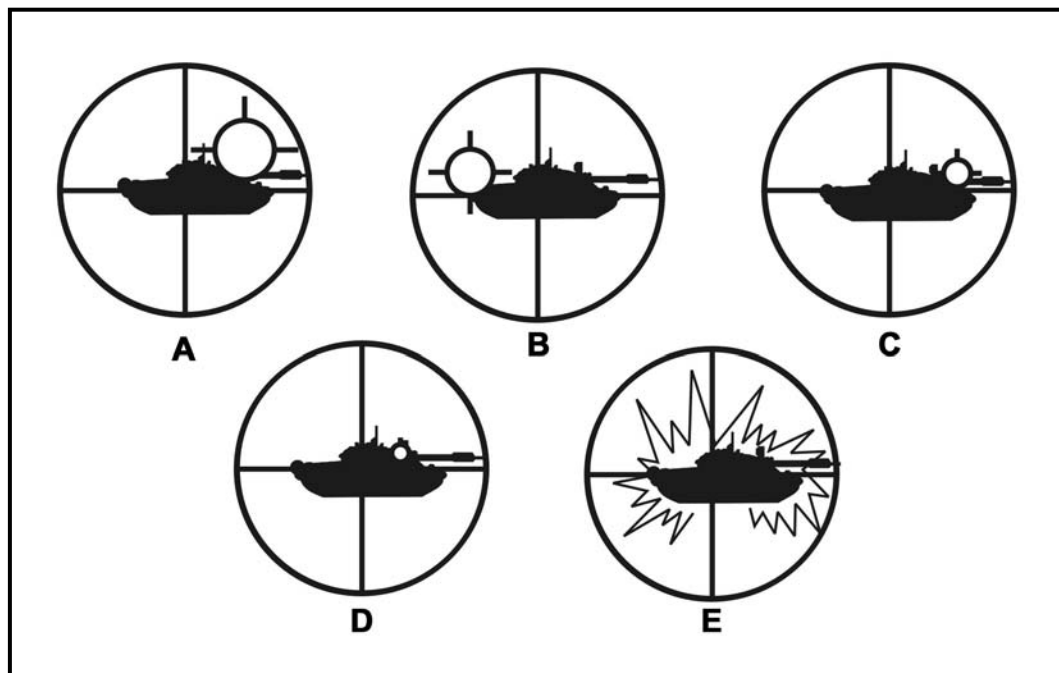

Figure 5-12. Keep crosshairs on the center of visible mass.
d. Proper breath control is especially important during the first and last 400 meters of missile flight. Improper breathing will cause poor tracking. Take a deep breath and let part of it out; then, press the trigger. After a 1.5-second delay, the missile will launch. The delayed firing of the launch motor may cause you to flinch or jerk the control knobs if you are not prepared for it. Be prepared for two noises after the trigger is pressed. The first noise is the gyro being activated. While it is not loud, it may cause you to think a misfire has occurred, and you may not be prepared for the next noise. The second noise is the launch motor firing and it *is* loud. The dust, smoke, heat, and debris from the backblast may cause flinching. When the missile appears in the sight picture, ignore it. *Never try to guide the missile.* If distracted, tracking becomes poor and chances of hitting the target are reduced. Continue to track the target at a smooth tracking rate, keeping the crosshairs on the center of visible mass until missile impact (Figure 5-12).